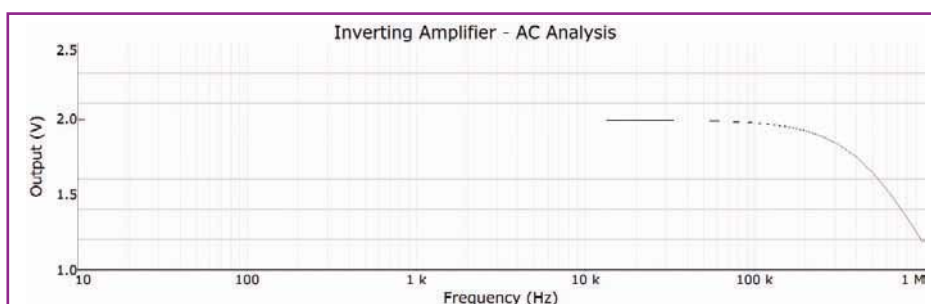

Figure 9: AC analysis of the inverting amplifier with feedback
Testing of the inverting amplifier with feedback is performed on the example of the circuit Figure 2. After entering it to the simulation program, an input signal of 0.4V should be chosen to give the desired 2V output; the set closed-loop gain $A = -5$ is typical for most audio applications. The obtained amplitude-frequency response is shown in **Figure 9**. Note that the circuit's closed-loop bandwidth extends up to 700kHz (at the level of -3dB) and the amplifier remains absolutely high-frequency (HF) stable not only in this case, but always, and with any amount of the applied negative feedback; the correction capacitor $C_2 = 10\text{pF}$ guarantees that.